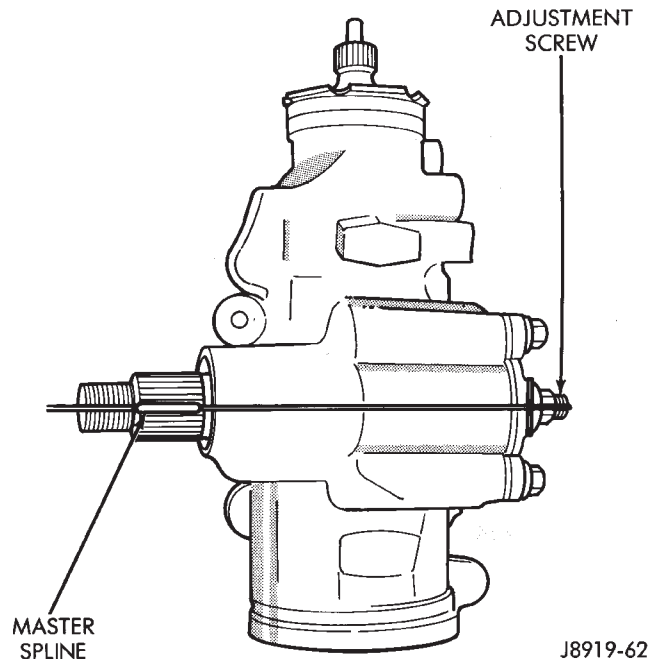

Fig. 30 Steering Gear Centered
(1) Rotate the stub shaft with a 12 point socket from stop to stop and count the number of turns.
(2) Starting at either stop, turn the stub shaft back 1/2 the total number of turns. This is the center of the gear travel (Fig. 30).